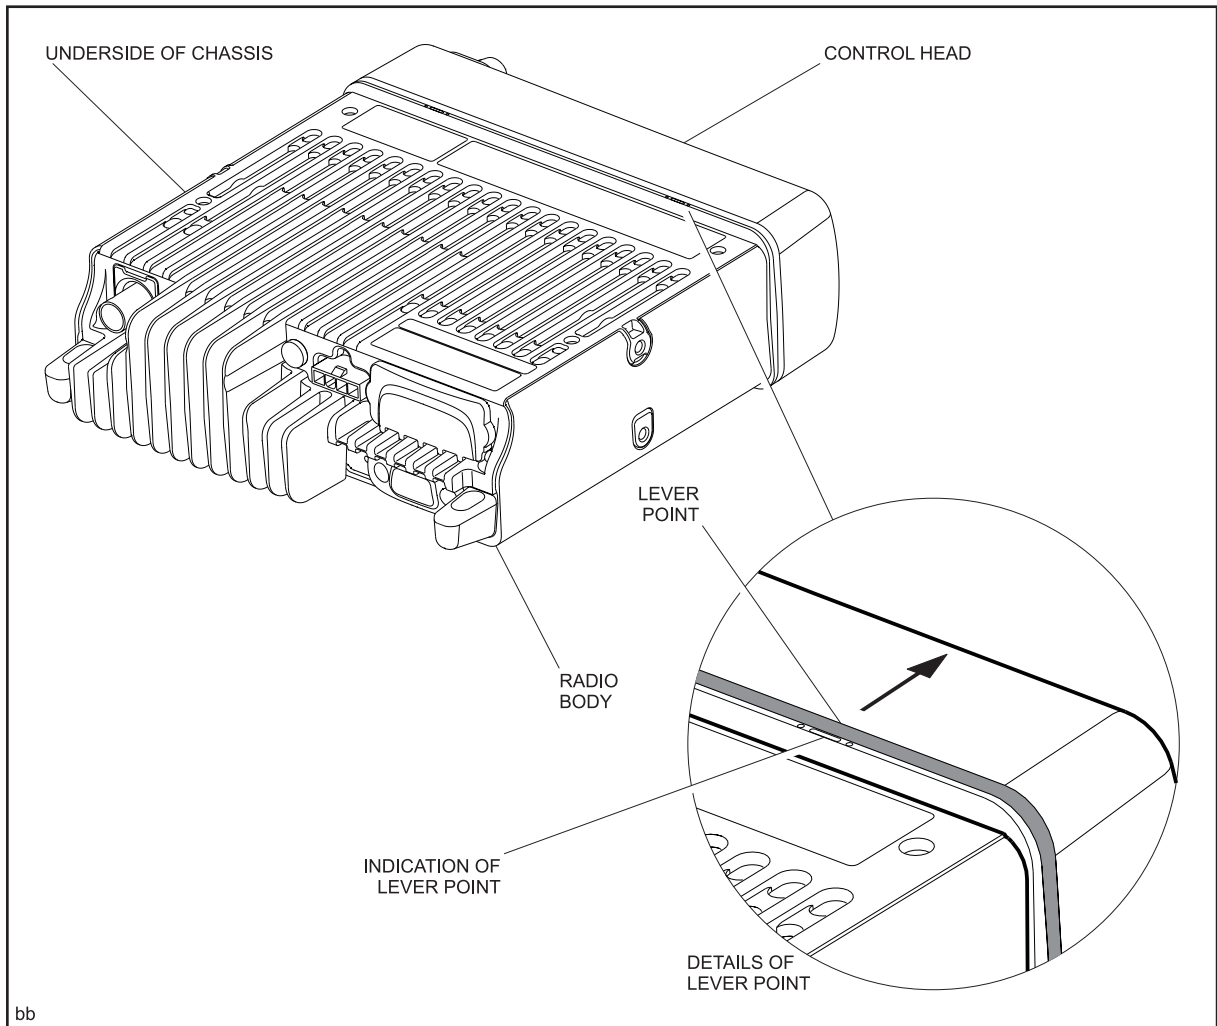

Figure 3.1 Lever points for detaching the control head from the radio body
3. Note the two points where the control head should be levered off the radio body. As shown in Figure 3.1, these points are indicated by dot-dash-dot marks on the underside of the radio body. The lever point is between the rubber seal and the front panel of the control head. (The seal is called the control-head seal.)